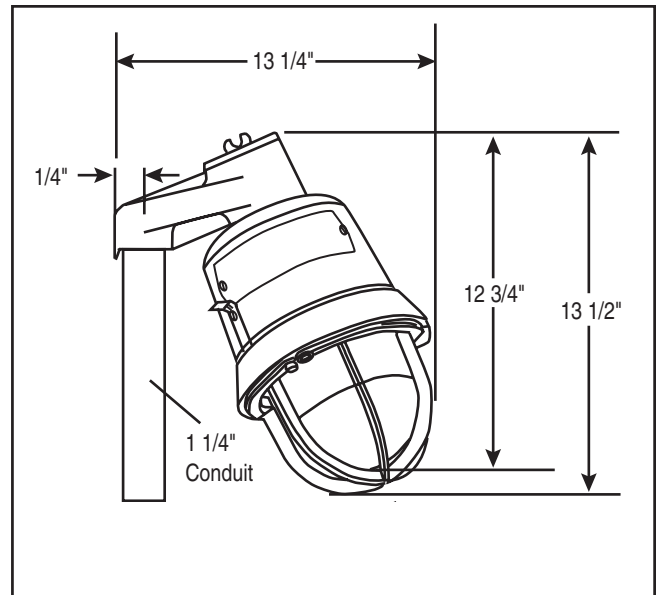

Figure 5. Detail of Stanchion Mounting
- d. **Stanchion Mount Models** (Figure 5): Install the catalog number 116EX-S, stanchion mounting module, to the main housing. Run the unit's wires through the 1 1/4" conduit to the appropriate junction box. Install the unit on the conduit. Proceed to step 2.